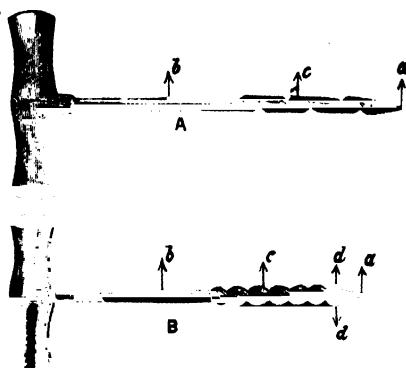

Fig. 110.
**The Gimlet.**—This tool (Fig. 110) is used for boring holes in wood. The point, (a), is shaped like a screw and the "shank", (b), has cut in it a